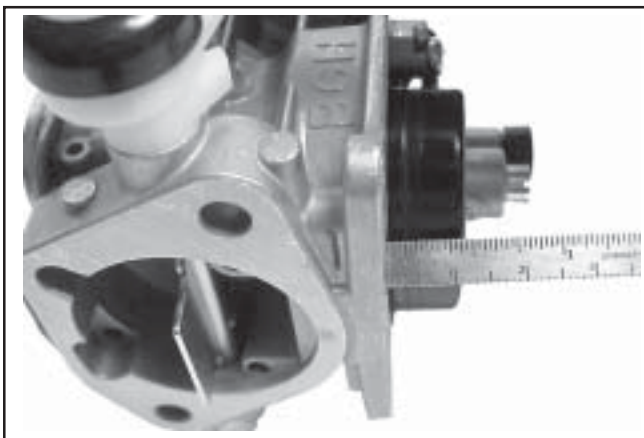

**Figure 5-14. Installing Float Assembly.**
5. Install the float and inlet needle down into the seat and carburetor body. Insert the new pivot pin through the float hinge and secure with the new retaining screw. See Figure 5-14.